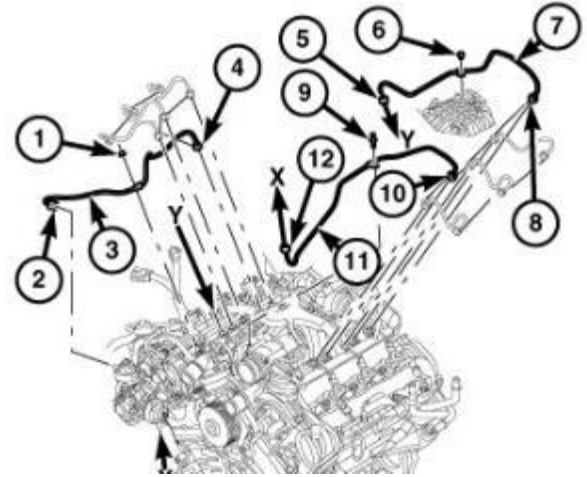
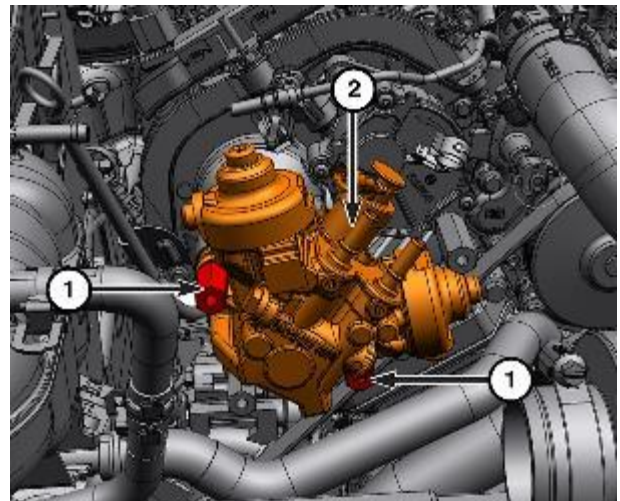

Figure 11 – Fuel Tube Nut
Figure 13 – Upper HPFP Bolts
14. Remove the nut (1) securing the fuel tube (Figure 11).
15. Remove the union nuts (2, 4) and the right high pressure fuel tube (3), discard the fuel tube (Figure 11).
16. Remove the bolt (9) securing the left side fuel tube (11) to EGR air flow control valve (Figure 11).
17. Loosen the union nuts (10, 12) and remove the left high pressure fuel tube (11), discard the fuel tube (Figure 11).
21. Remove the upper bolts (1) from the high-pressure pump (2) (Figure 13).
33. Remove the Tool, High Pressure Pump Installation VM.10345 from the upper bolts location and install the bolts (Figure 13).
34. Tighten the bolts (1) that secure the fuel injection pump to 25 N·m (18 Ft. Lbs.).
35. Connect the fuel injection pump electrical connector (2) (Figure 11).
36. Connect the low-pressure fuel supply and return lines (3) (Figure 11).
38. Install the **NEW** left high-pressure fuel tube (11) and tighten the union nuts (10, 12) finger tight (Figure 11):
- Tighten the union nut (10) to 5 N·m (44 in. lbs.) plus an additional 75 degrees turn.
- Tighten the union nut (12) to 11 N·m (8 ft. lbs.) plus an additional 75 degrees turn.
39. Install the bolt (9) securing the left side high pressure fuel tube (11) to EGR air flow control valve and tighten to 11 N·m (8 ft. lbs.) (Figure 11).
40. Install the **NEW** right high-pressure fuel tube (3) and tighten union nuts (2, 4) finger tight (Figure 11):
- Tighten the union nut (4) to 5 N·m (44 in. lbs.) plus an additional 75 degrees turn.
- Tighten the union nut (2) to 11 N·m (8 ft. lbs.) plus an additional 75 degrees turn.
41. Install the nut (1) securing the right-side high-pressure fuel tube (3) to right side cylinder head cover and tighten to 11 N·m (8 ft. lbs.) (Figure 11).